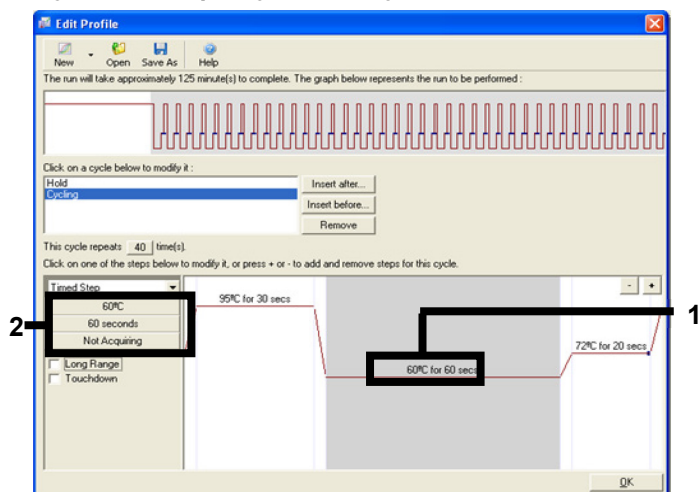

Figure 26. Cycling step at 60°C (1 = Step two: temperature and time setting; 2 = “Not Acquiring” button).
9. Highlight the second step and set to 60°C for 60 secs. Enable data acquisition during this step by selecting the “Not Acquiring” button (Figure 26).